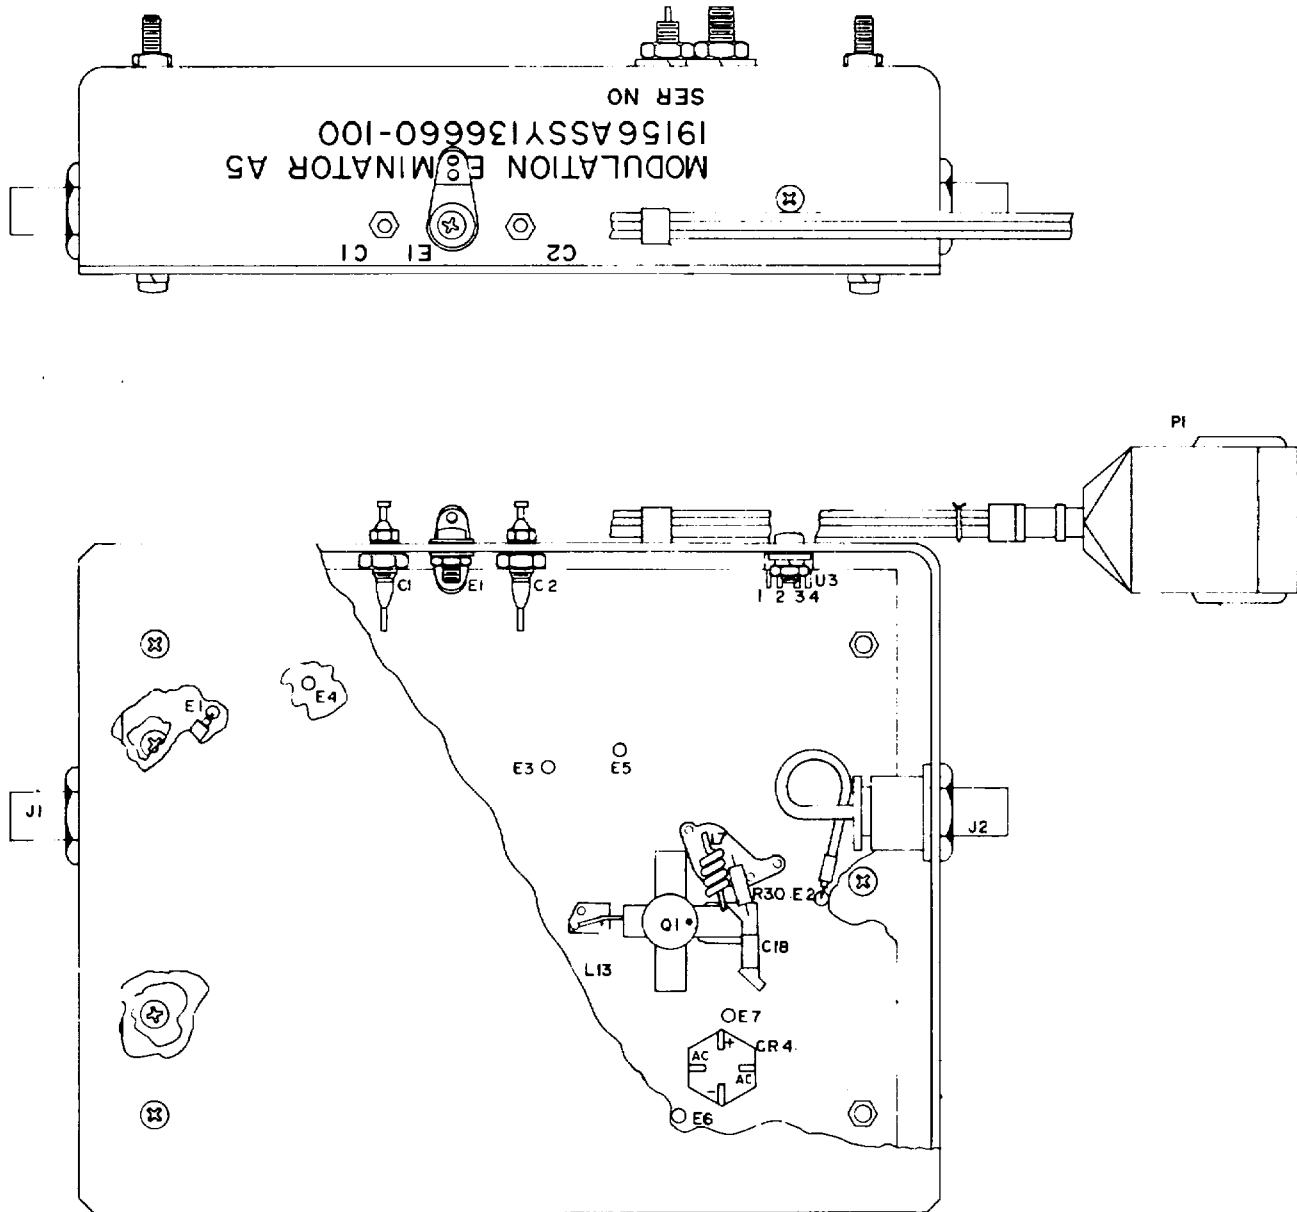

Figure 7-7. Modulation Eliminator, 1A5A5 Parts Location Diagram
9. Modulation Eliminator Assembly (1A5A5) Disassembly. To remove the modulation eliminator Assembly, perform the following procedures. Further disassembly should be limited to removal of parts for repair or replacement. Refer to figure 7-7 for location of components to be replaced.